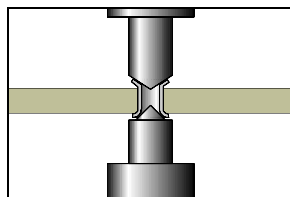

Figure 1: *Flare the eyelet into a funnel shape*
4. Insert the Eyelet into the circuit board and flare the eyelet end into a funnel shape. Apply light and even pressure. (See Figure 1).